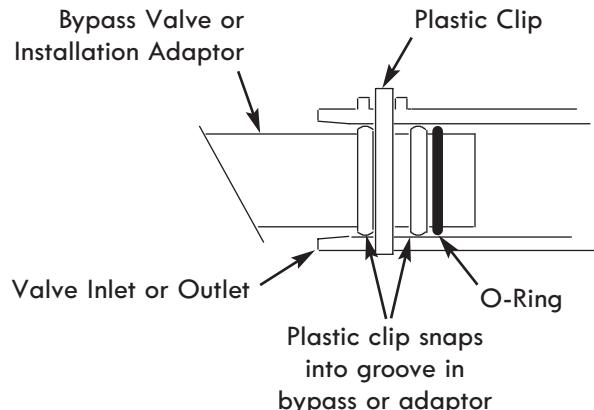

Figure 7
**6B.** Lightly coat the o-rings with silicone grease and slide them onto the bypass valve. Push the bypass valve into the softener valve's inlet and outlet ports as far as it will go. Snap the two large holding clips into place, from the top down as shown (see Fig. 7).
**7.** Lightly coat the o-rings with silicone grease and slide them onto the installation adaptors. Push the adaptors into the valve inlet and outlet ports, or bypass valve ports, as far as they will go. Both adaptors are the same and fit either port. Snap the two large holding clips into place, as shown (see Fig. 7).